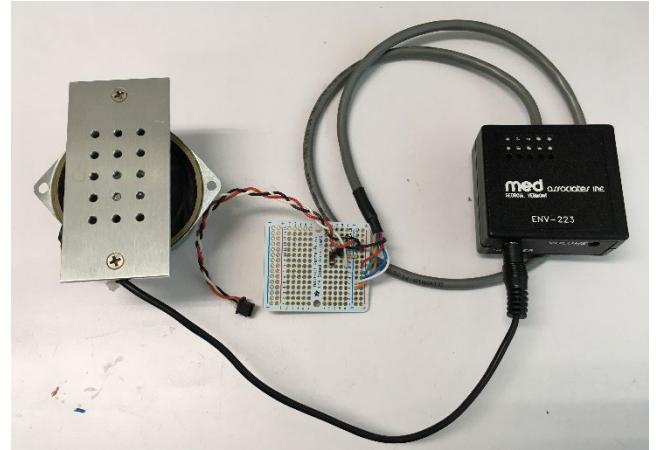

Figure 62 Completed audio cue system
- See Figure 62 for the completed audio cue system.